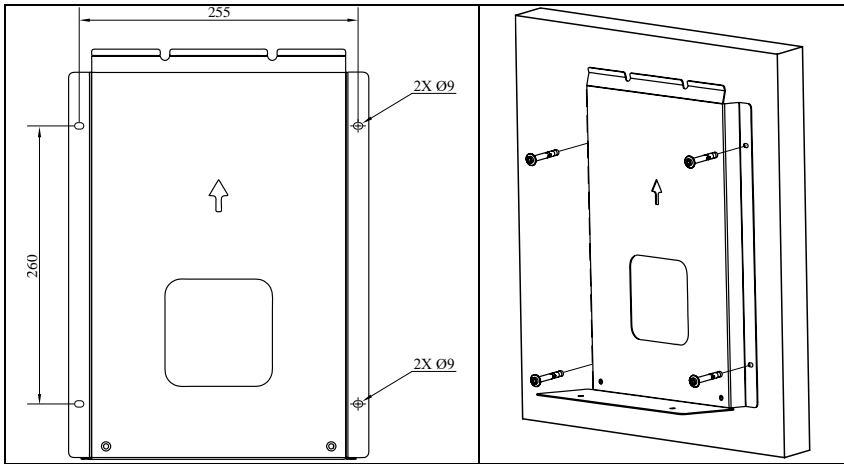

Fig. 5-2 Mounting the metal holder onto the wall
2. Drill 4 mounting holes with a diameter of 10 mm and a depth of 70 mm at a distance of 255 mm in width and 260 mm in height. Use side holes of the metal bracket (see **fig. 5-2**).